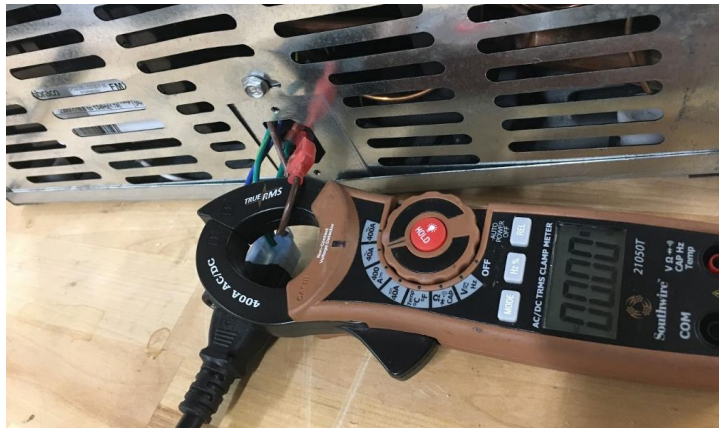

Figure 85: Clap-Meter around live wire.
- i. If the Amperage reading is less than 0.5Amps, the fridge is low on refrigerant and needs to be replaced. In this situation, return the unit and request a replacement unit. **See Figure 85.**
- ii. If the Amperage is higher than 1.2Amps after approximately 5minutes of operation, there is a restriction in the refrigerant line and needs to be replaced. In this situation, return the unit and request a replacement unit. **See Figure 85.**